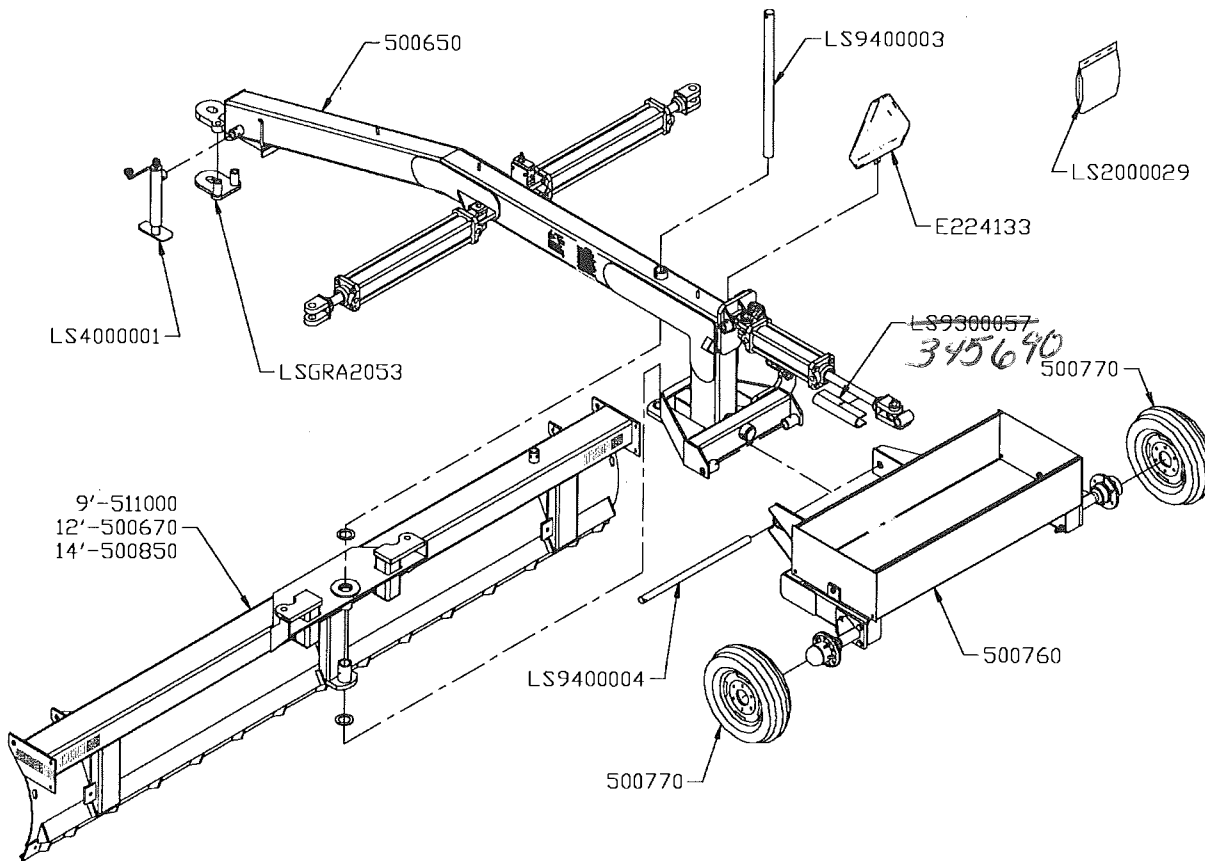

Figure 1. Grader Receipt and Setup Assembly
- Assemble wheel and tire assemblies to the rear frame assembly (See figure 1).